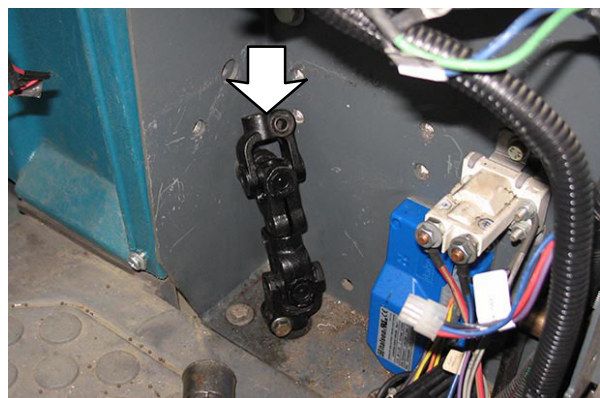

FIG. 32
33. Tap the lower power steering shaft (13) down enough to install the power steering motor assembly (9)/(10) into the steering support channel and install the lower power steering shaft onto the power steering motor assembly. (Fig. 32)